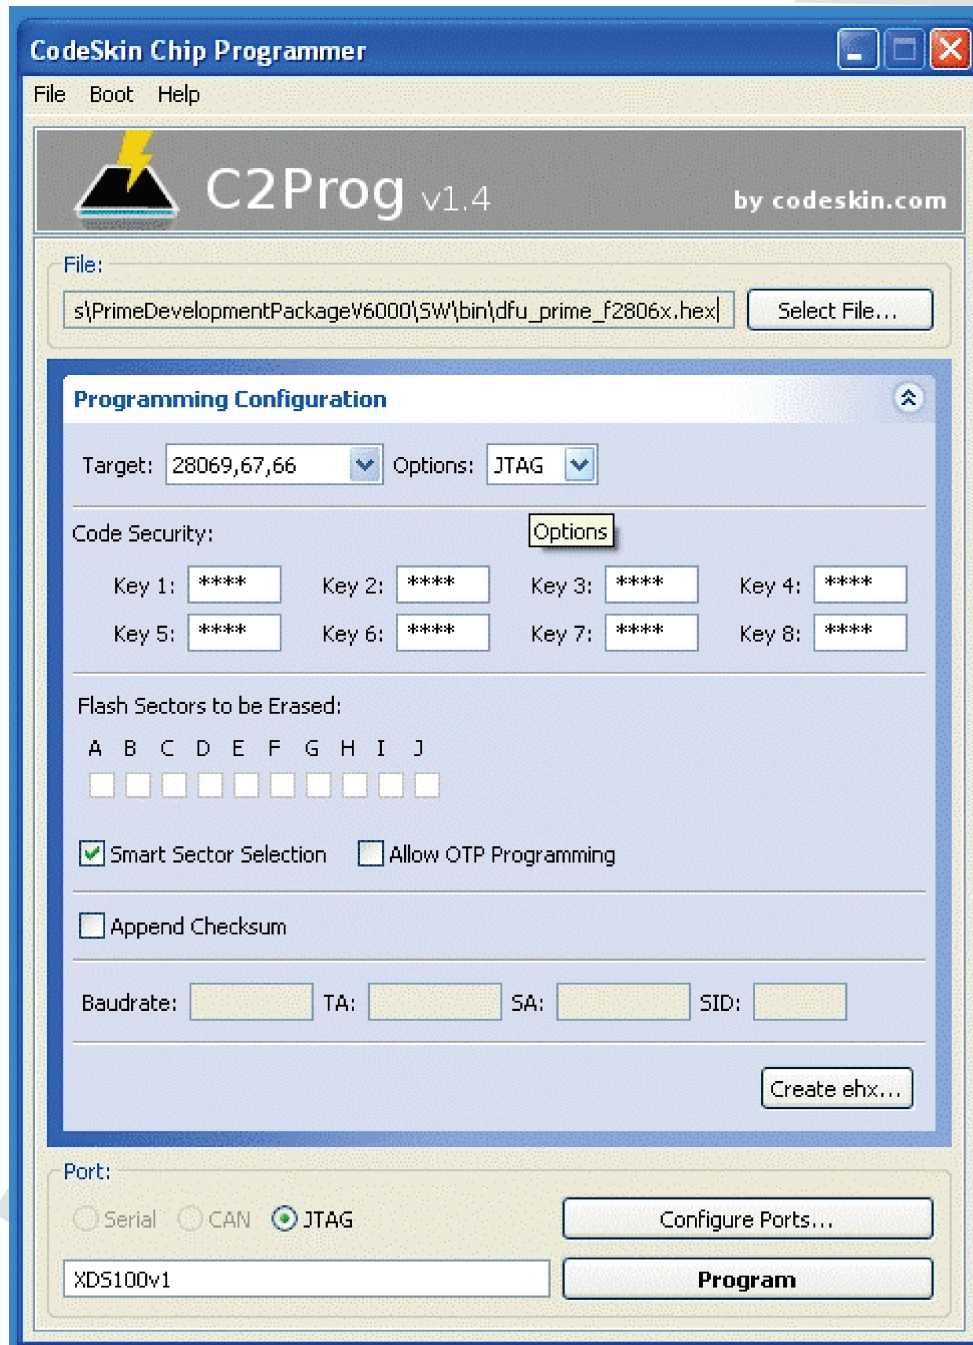

Figure 53. CodeSkin Chip Programmer
5. Program the *.hex (located in c:\Texas Instruments\<PackageName>\SW\bin) as shown in Figure 53. Select "28069,67,66" in the Target pull-down and "JTAG" in the Options pulldown.